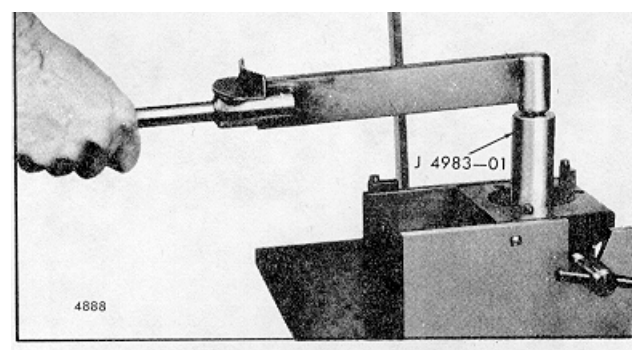

Fig. 40 Tightening Injector Nut With Torque Wrench
8. Use socket J 4983-41 and a torque wrench to tighten the injector nut to 75-85 lb-ft (102-115 Nm) torque (Fig. 40).